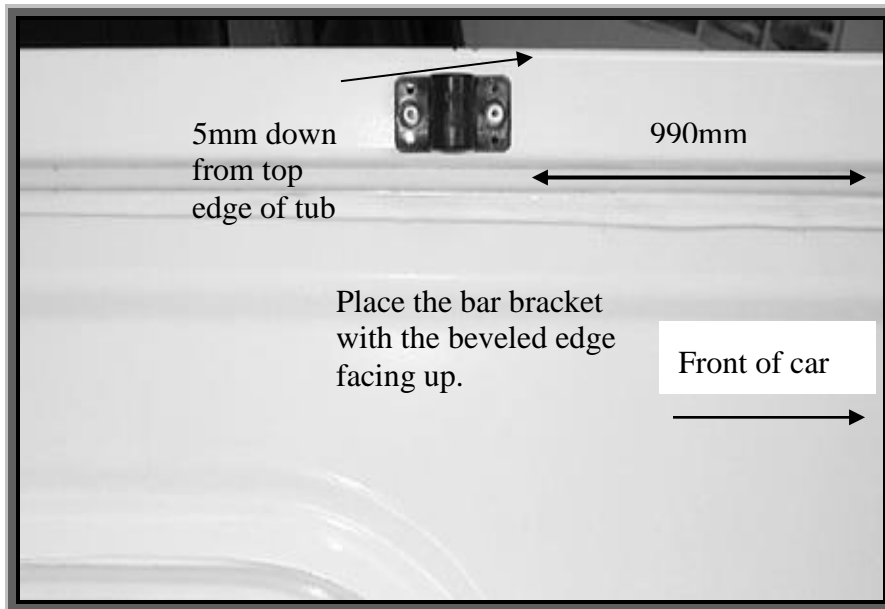

Figure 2: Placement of Bar Bracket
5. With a pencil mark the inside edge on each side of the tub at 990mm from the inside front face of tub towards the rear on each side. Centrally locate the bar bracket over this position and align the top of the bar bracket 5mm down from the top edge of the tub and drill and rivet bracket into place. **See Figure 2.** Repeat for other side of tub. Fit tonneau support bar to bar brackets.